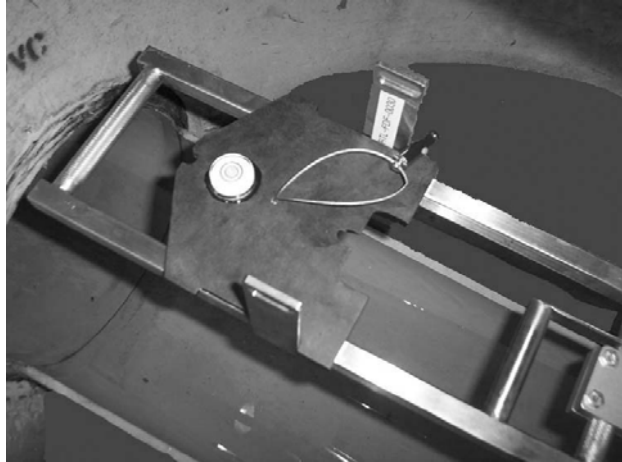

Figure 4
In September 2002 Marsh-McBirney contracted Alden Research Labs of Holden, Massachusetts to perform flow accuracy tests on the Flo-Dar sensor with an electromagnetic surcharge sensor. The Flo-Dar was subjected to a flow range of 400 gpm to over 9000 gpm in a pipe size of 23.5 inches. The pipe had a slope of approximately zero. The test results are shown in Figure 4, Figure 5, Figure 6 and Figure 7.
Figure 4 compares the Flo-Dar flow vs. the Alden Standard (weigh tank). The flow condition for this test was both open channel flow and surcharge (submerged) flow.
E) Align and level the frame by placing the laser alignment tool in the frame as shown in figure 4. Utilize the bubble-level on the tool to level the frame.